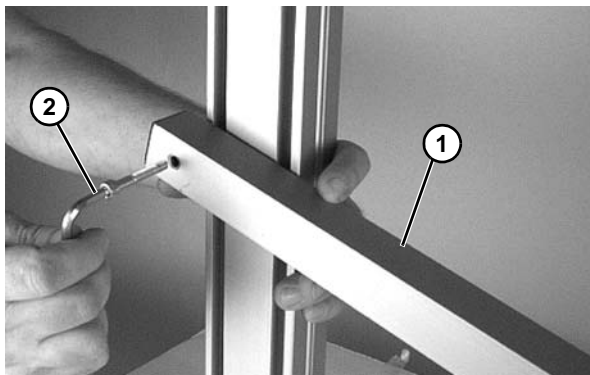
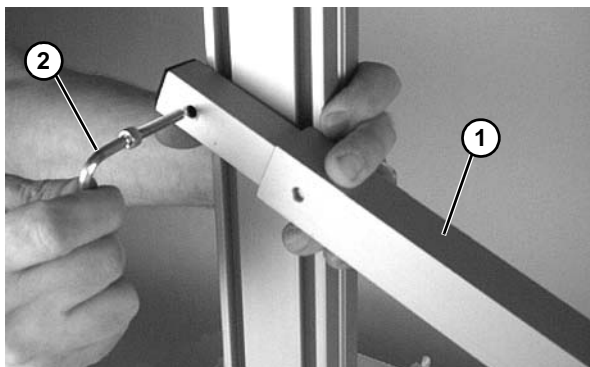

Figure 14
Figure 15
3. Loosely attach adjustable bar (Figure 14, item 1) or (Figure 15, item 1) to aluminum stand T-slot as required.
- Attach outer tube end with screw (Figure 14, item 2).
- Attach inner channel end with screw (Figure 15, item 2).